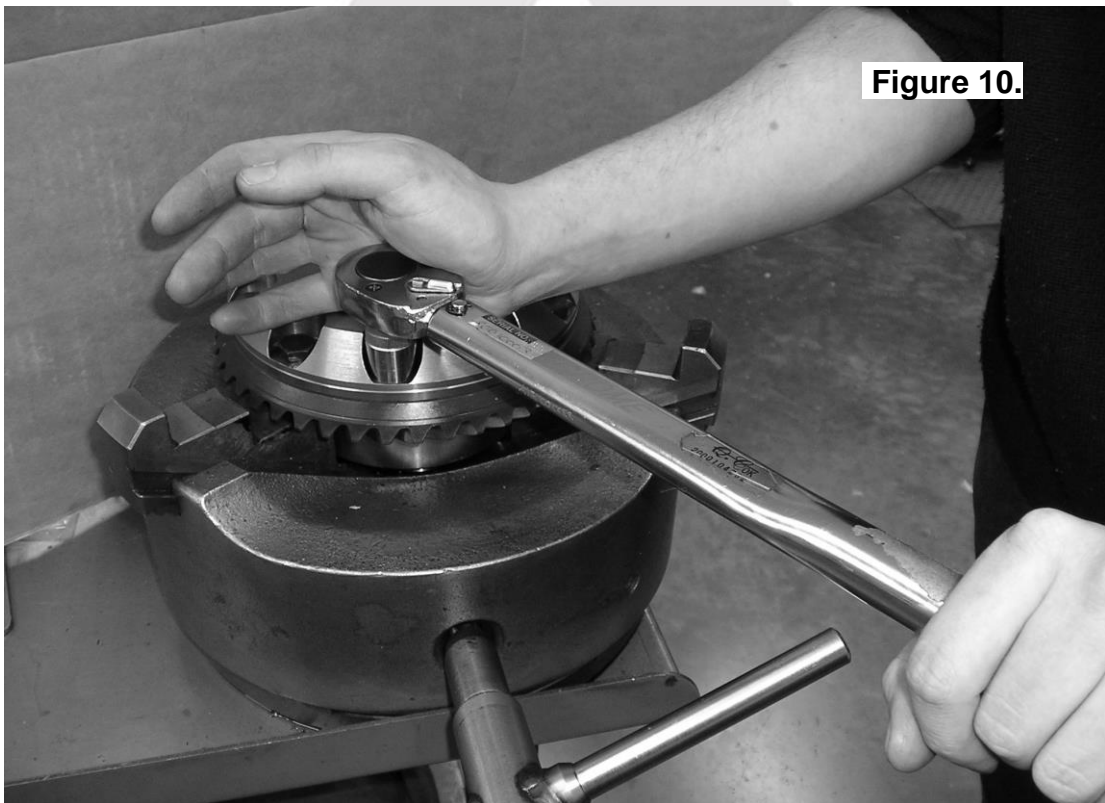

Figure 10.
- ☐ Tighten the ring gear bolts in a star pattern with a torque wrench (Fig. 10.) set to your vehicle manufacturer's specified torque.